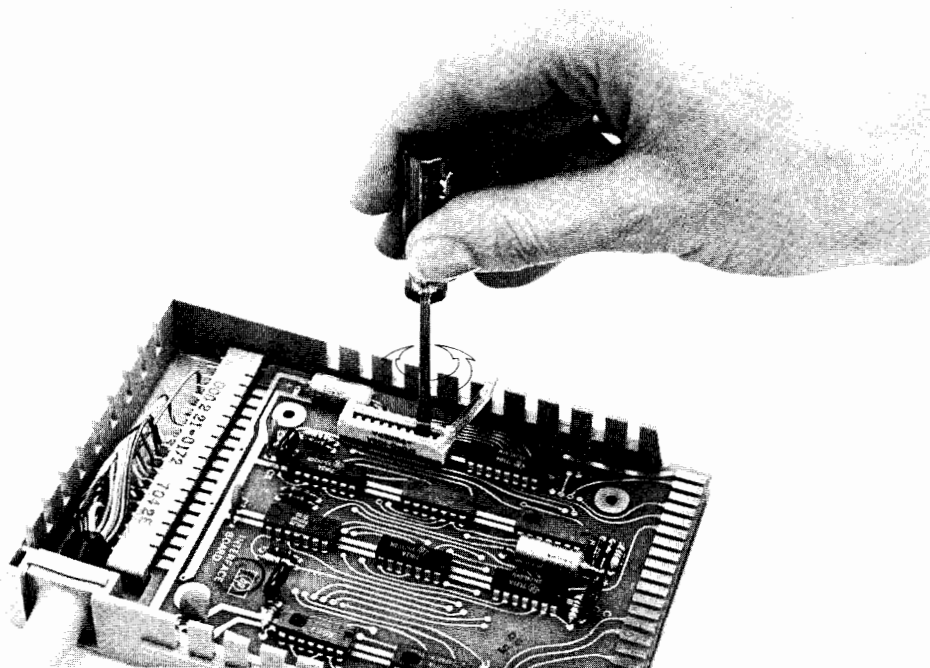

Figure 4. Setting the Digitizer Select Code.
3. Locate the Select Code Switch (see Figure 4). Raise the hinged cover on the switch. Using a small, flat-blade screwdriver, carefully rotate the selector tab until it is positioned at the desired select code number (numbers are printed on the side and on the top cover of the switch). Before closing the cover, be sure the slot in the selector tab is positioned perpendicular to the length of the switch.